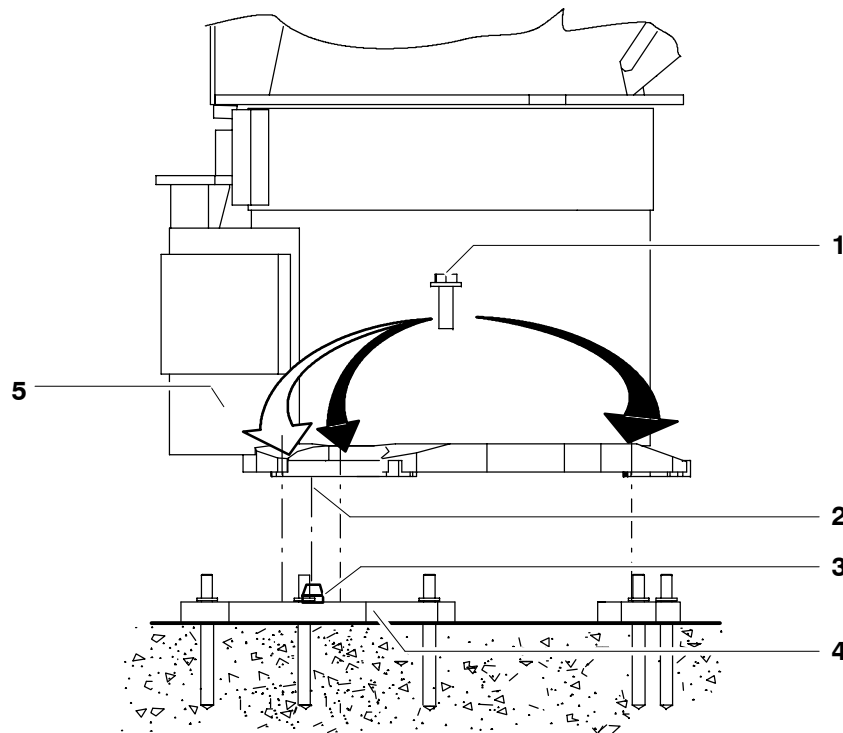

Fig. 53 Installing the manipulator on the floor
- (3) Lower the manipulator (Fig. 53/5) vertically onto bedplates (4) or steel structure. If lifting tackle is used, particular care must be taken to ensure exact vertical positioning in order to avoid damaging the pins during this operation.